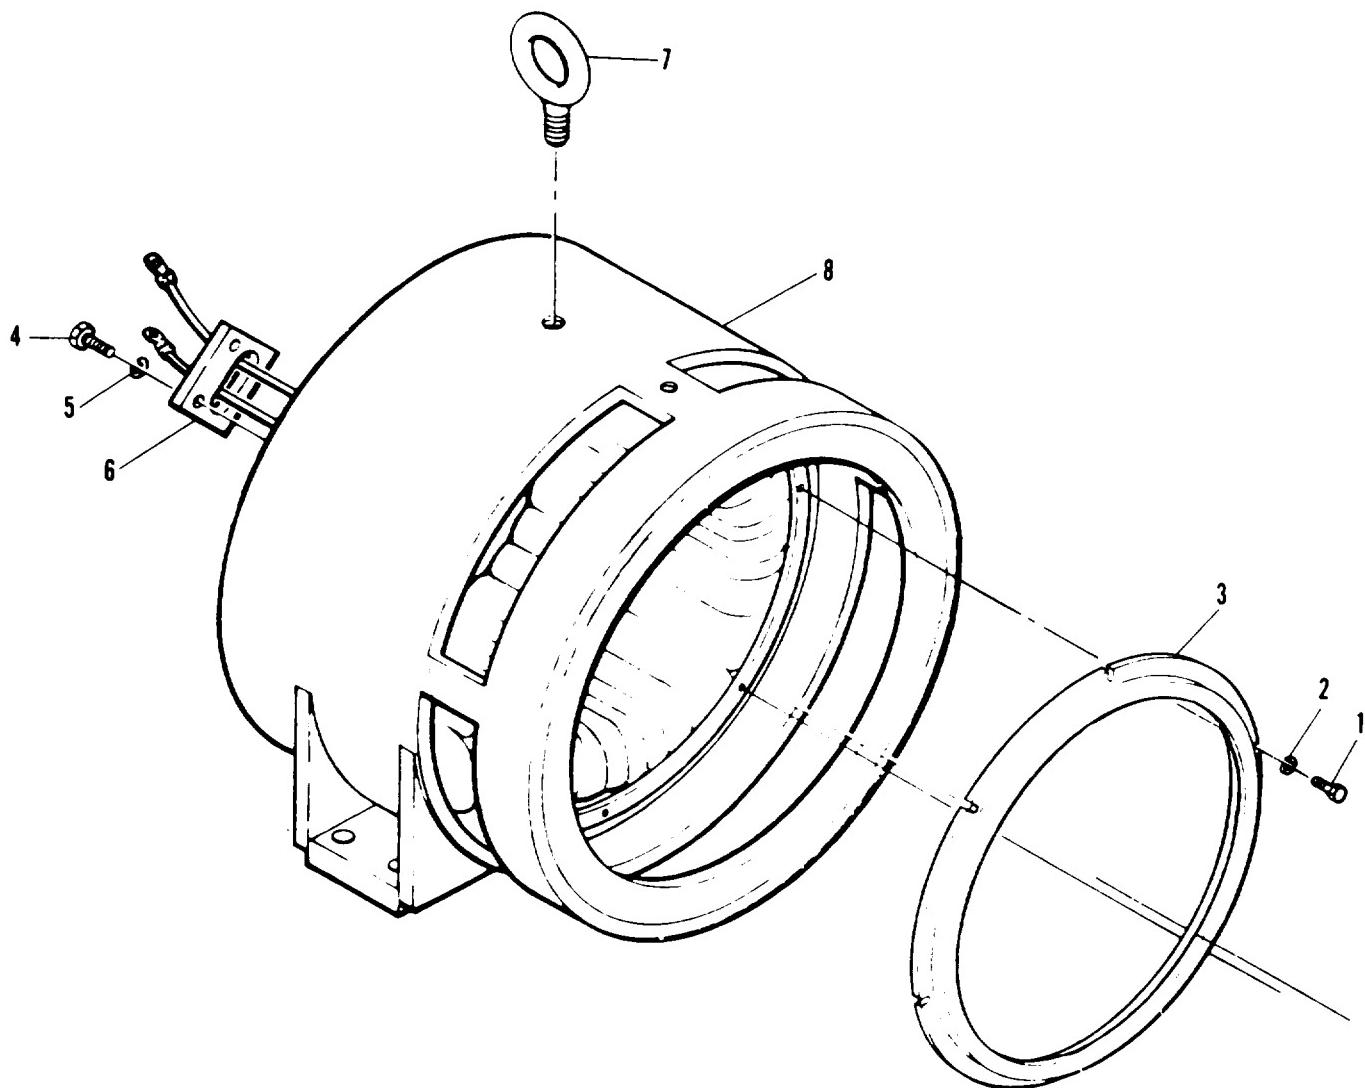

Figure 3-141. Generator Stator Assembly, Exploded View
- Separate pressure plates (4) and blocks (5, 6, and 7).
(31) If inspection reveals damage to stator assembly, disassemble as follows:
- Remove screws (1, figure 3-141) and lockwashers (2) to remove ring (3). (400 Hz generator sets only.)
- Remove screws (4) and lockwashers (5) to remove lead bushing (6).
- Unscrew eye bolt (7) from frame assembly (8).
(1) Assemble stator assembly as follows:
- (a) Screw eye bolt (4, figure 3-141) into frame assembly (5).
- (b) Install lead bushing (3) and secure with lockwashers (2) and screws (1). Torque screws to 17 lbs-ft.
(2) Assemble lead block assembly as follows: